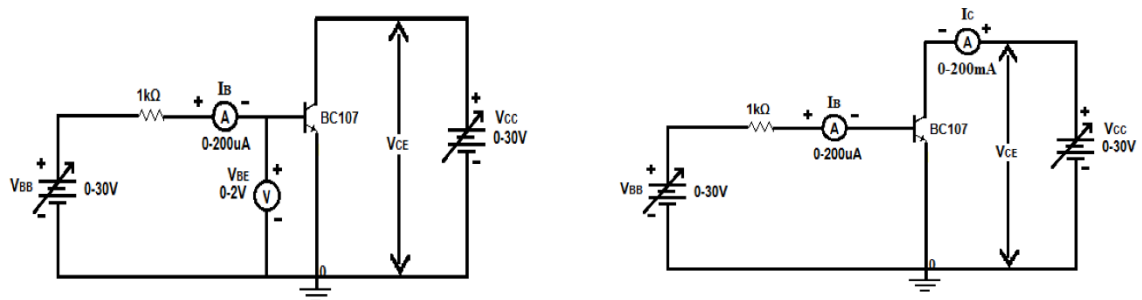

Fig 5.1: Circuit Diagram for Input and Output Characteristics of BJT in Common Emitter Configuration.
- Connect the circuit as shown in fig. 5.1. Adjust all the knobs of the power supply to their minimum positions before switching the supply on.
- Connect the circuit as shown in fig. 5.1. All the knobs of the power supply must be at the minimum position before the supply is switched on.